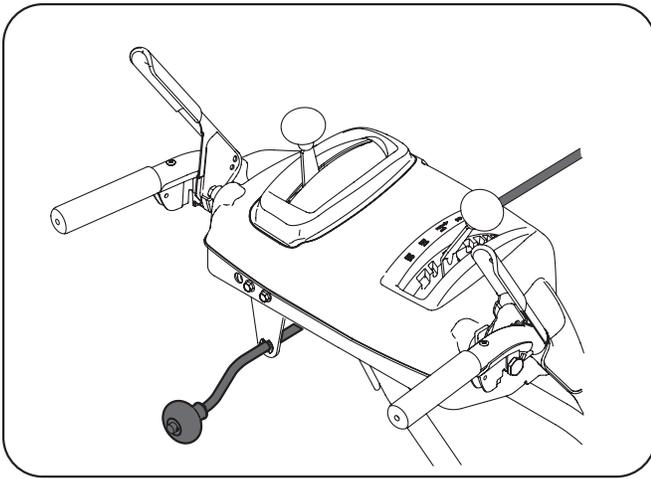

Figure 3-8
- Guide the chute crank rod through the bracket located on the rear of the handle panel. See Fig. 3-8.